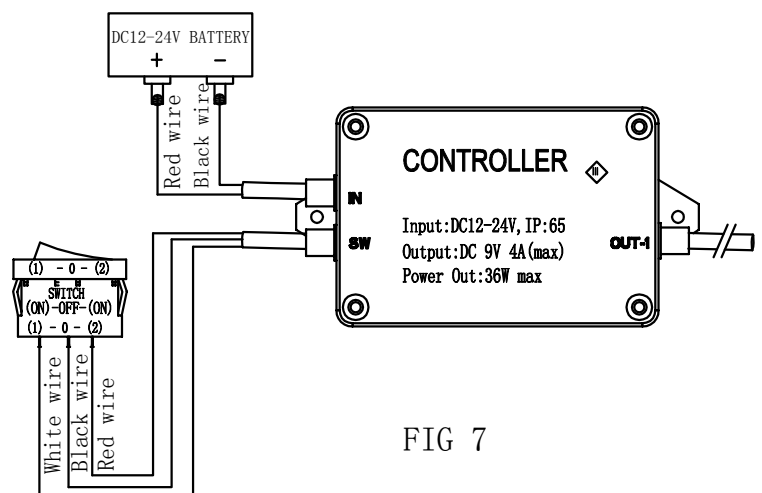

FIG 7
5. According to the wiring diagram, connect the wires of the light to the terminal of the controller (Ref.FIG 7). Then lock the top cover into the bottom of the controller box with 4 screws . place the controller in a suitable location.